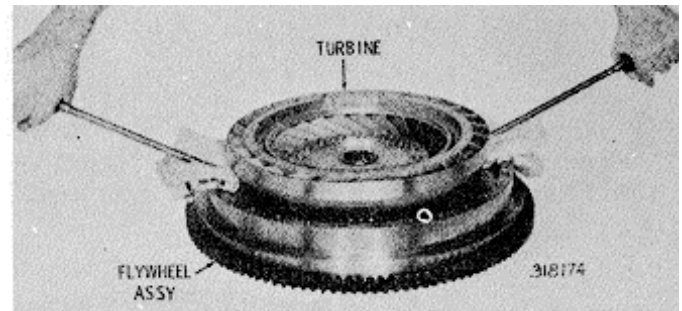

Fig. 6-1. Removing converter turbine 6 from flywheel.
(1) Position the flywheel assembly, front downward, on the work table (fig. 6-1).
(2) Using two large screwdrivers or (prybars) cushioned to prevent scratching(components)pry the torque converter turbine free of the flywheel and lockup clutch (fig. 6-1).